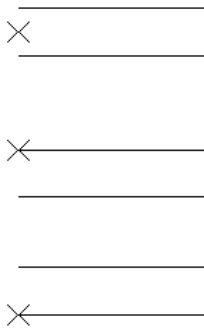

Figure 16-33: Drawing a multiline using the Standard multiline style in zero, top, and bottom justification.
- Zero places the element that has a zero offset in the multiline definition at the pick point. You do not need to have a line at zero offset, as is the case with the Standard multiline style. The top example in Figure 16-33 shows the Standard multiline style with zero justification.
- Top places the line with the highest positive offset at the pick point. The middle example in Figure 16-33 shows the Standard multiline style with top justification.
- Bottom places the line with the highest negative offset at the pick point. The bottom example in Figure 16-33 shows the Standard multiline style with bottom justification.